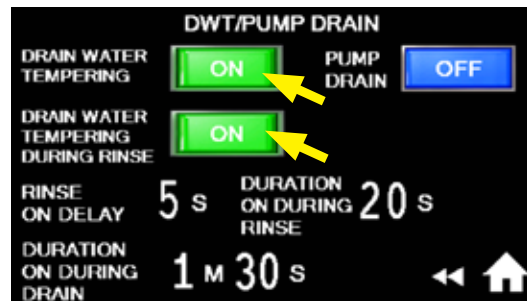

Fig. 72 - Drain water tempering settings
2. Refer to Fig. 72. The default settings are OFF. The default time the cold water valve is energized during drain is 1 minute 30 secs. Default time during final rinse is a 5 sec. delay followed by a 20 sec. run time.